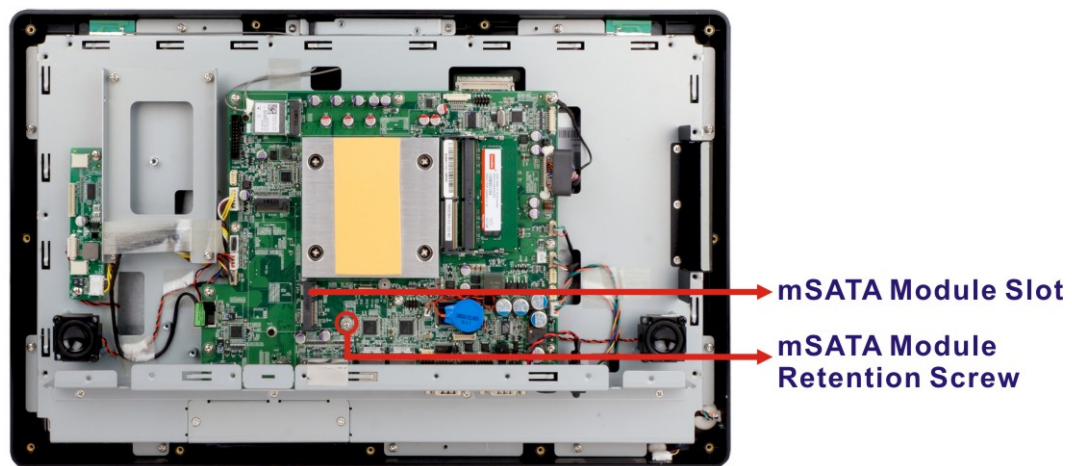

Figure 3-11: mSATA Module Slot Location
Step 2: Locate the mSATA module slot. Remove the preinstalled retention screw on the screw pillar as shown in **Figure 3-11**.